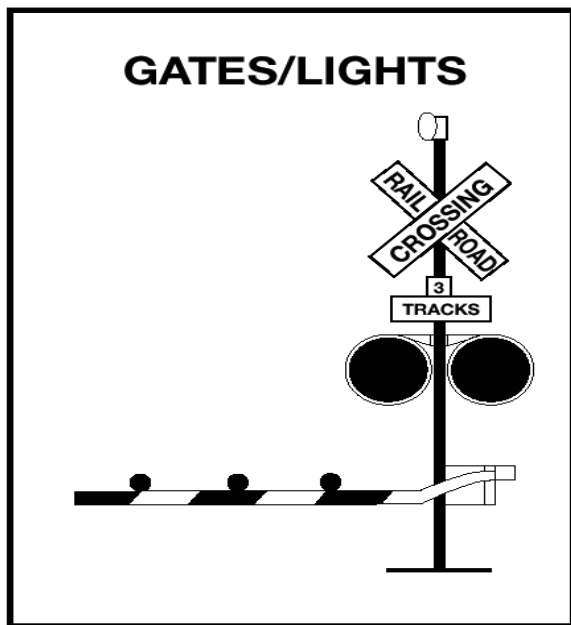

Figure 2.18
**Flashing Red Light Signals** - At many highway-rail grade crossings, the crossbuck sign has flashing red lights and bells. When the lights begin to flash, stop! A train is approaching. You are required to yield the right-of-way to the train. If there is more than one track, make sure all tracks are clear before crossing. See Figure 2.18.
gates go up and the lights have stopped flashing. Proceed when it is safe. See Figure 2.18.